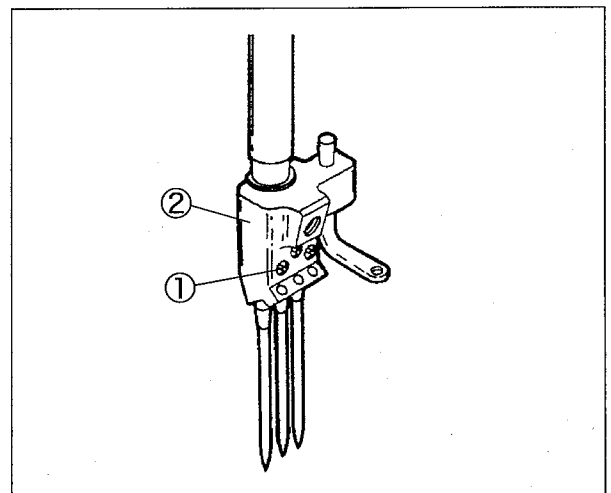
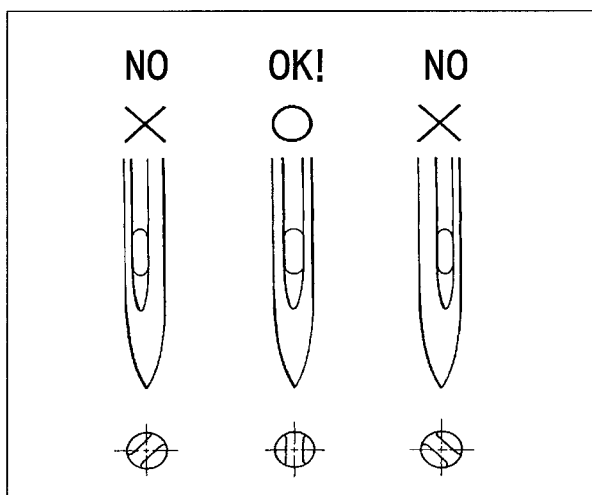

Fig. 5-1
Fig. 5-2
- (1) Loosen the screws① with a screwdriver. (Fig. 5-1)
- (2) Remove the old needle with a pair of tweezers.
- (3) Insert a new needle into the needle clamp② as far as it goes with facing its scarf to the right back. (Fig. 5-2, 5-3)
- (4) Tighten the screws① with the screwdriver.